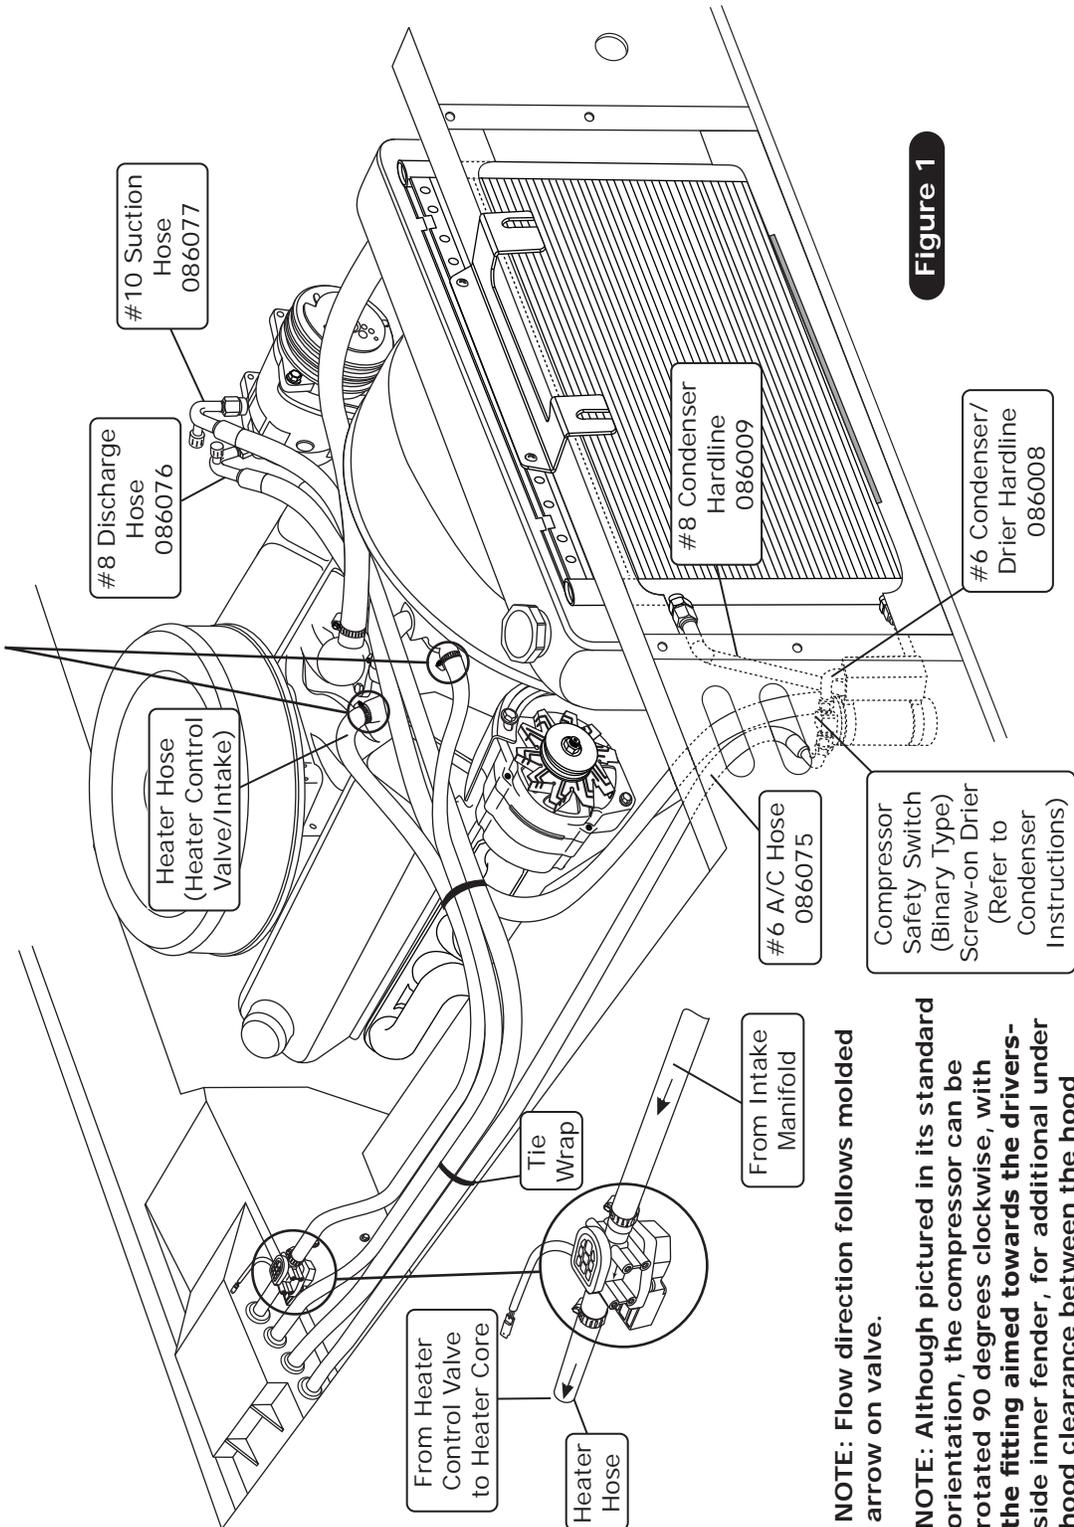

Figure 1
1. Route a piece of heater hose (not supplied) from the water pump to the top heater fitting of the heater core as shown in Figure 1a, Page 11, and Figure 1, below. Secure using hose clamps.
2. Route a piece of heater hose (not supplied) from the intake to the bottom heater fitting of the heater core as shown in Figure 1a, Page 11, and Figure 1, below. **NOTE: Install the heater control valve in line with the intake manifold (pressure side) heater hose, and secure using hose clamps as shown in Figure 1, below. Also note proper flow direction.**